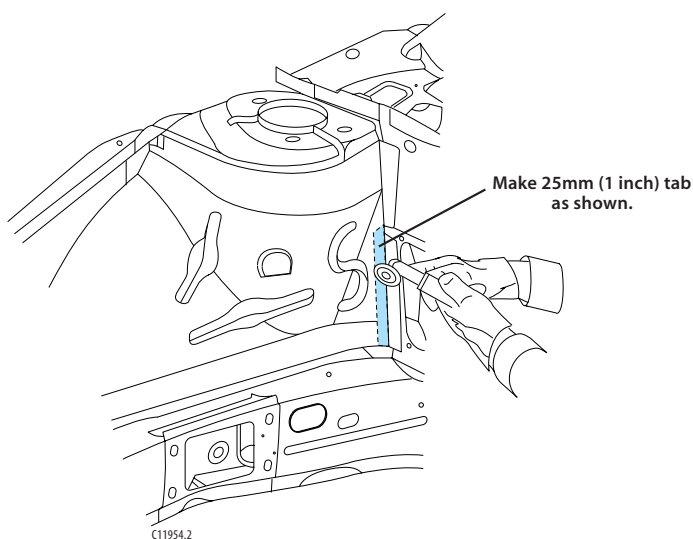

Figure 4-2:
4. Place a piece of 25mm (1 inch) wide masking tape (figure 4-2), on the forward contour of the wheelhouse at the flange where it attaches to the cowl panel. Cut the wheelhouse along the forward edge of the masking tape to leave a 25mm (1 inch) tab extending forward from the cowl panel. This will provide an overlap for welding the service part to the original wheelhouse, without welding directly to the cowl panel.